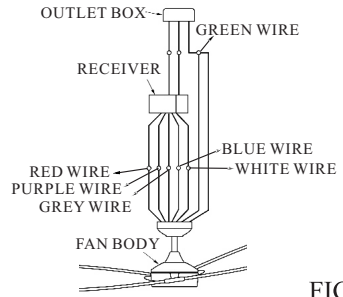

FIG.7
2. Connect the red wire from receiver to the red wire from fan with wire nut. Connect the purple wire from receiver to the purple wire from fan with wire nut. Connect the blue wire from receiver to the blue wire from fan with wire nut. Connect the grey wire from receiver to the grey wire from fan with wire nut. Connect the white wire from receiver to the white wire from fan with wire nut. Connect the green wire from ceiling, and green wire from hanger bracket with green wire from downrod ball with wire nut. (see Fig.7)